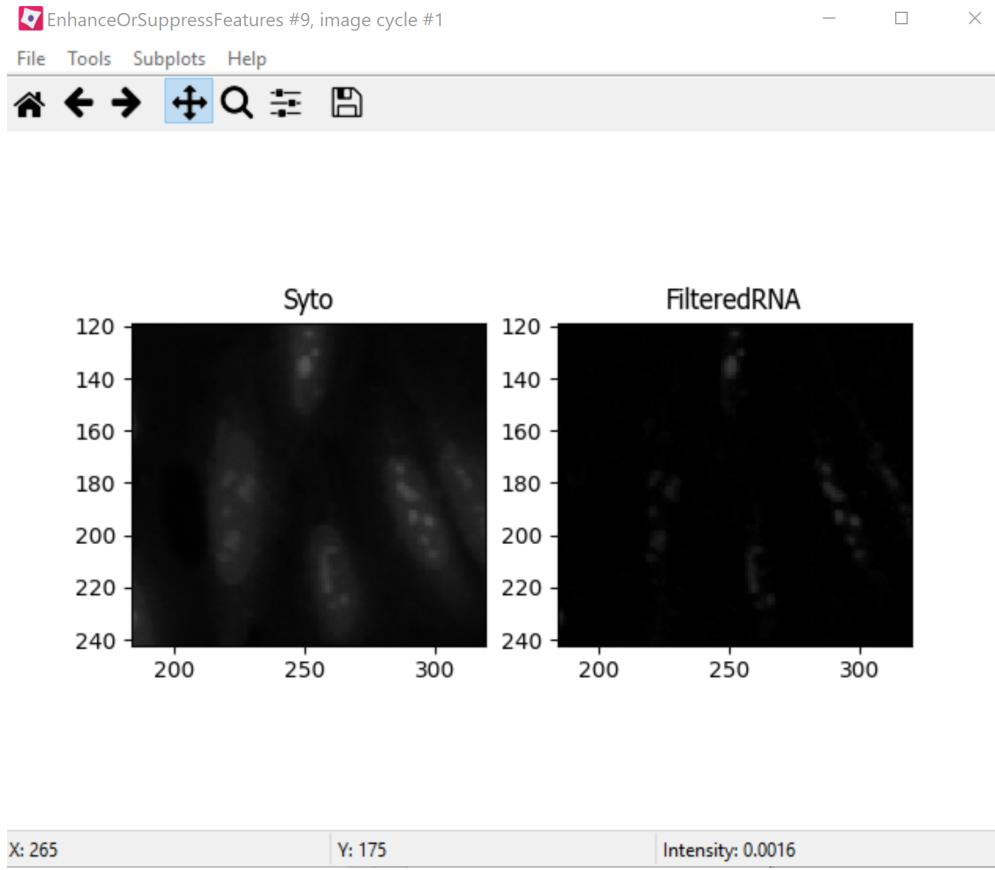

Figure 6: Enhancing the Syto image allows you to isolate nucleoli against the nucleoplasmic background signal.
- EnhanceOrSuppressFeatures is a module that helps enhance particular parts of an image- in this case, punctate objects or 'Speckles'. By specifying the feature size, you can enhance different parts of the object. As we are looking for nucleoli, we apply this to the RNA channel (Syto) image, and call the output 'FilteredRNA'. (See Fig 6 below)